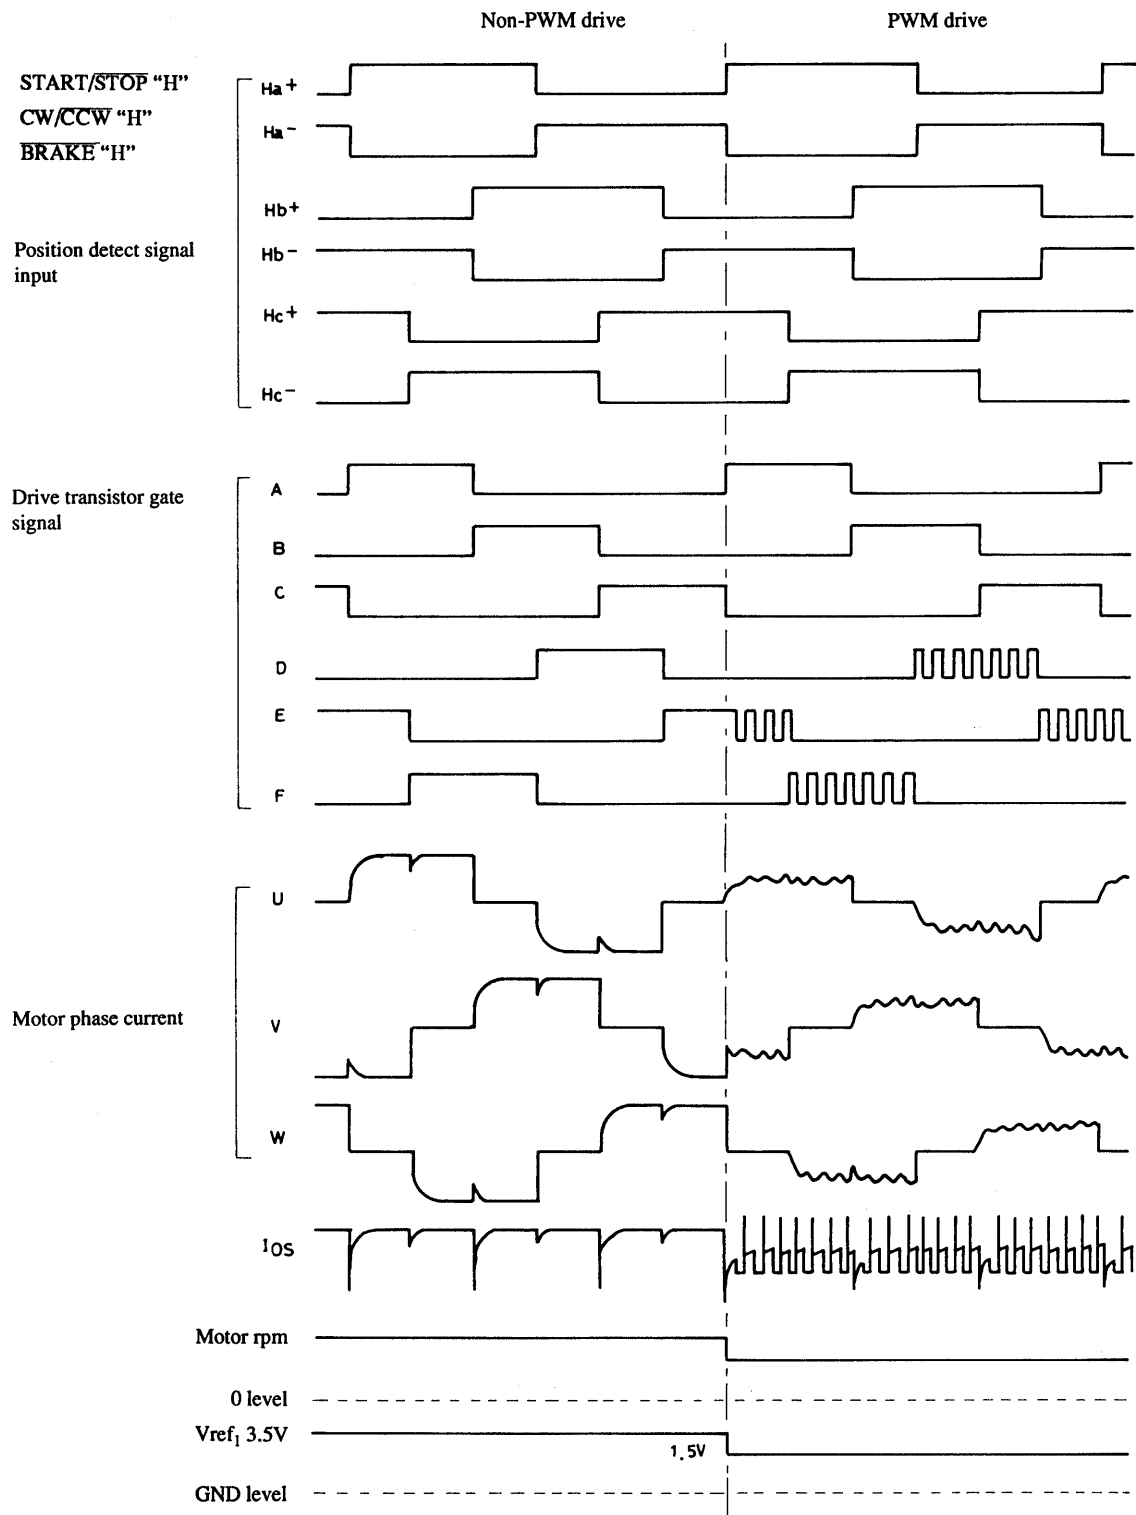
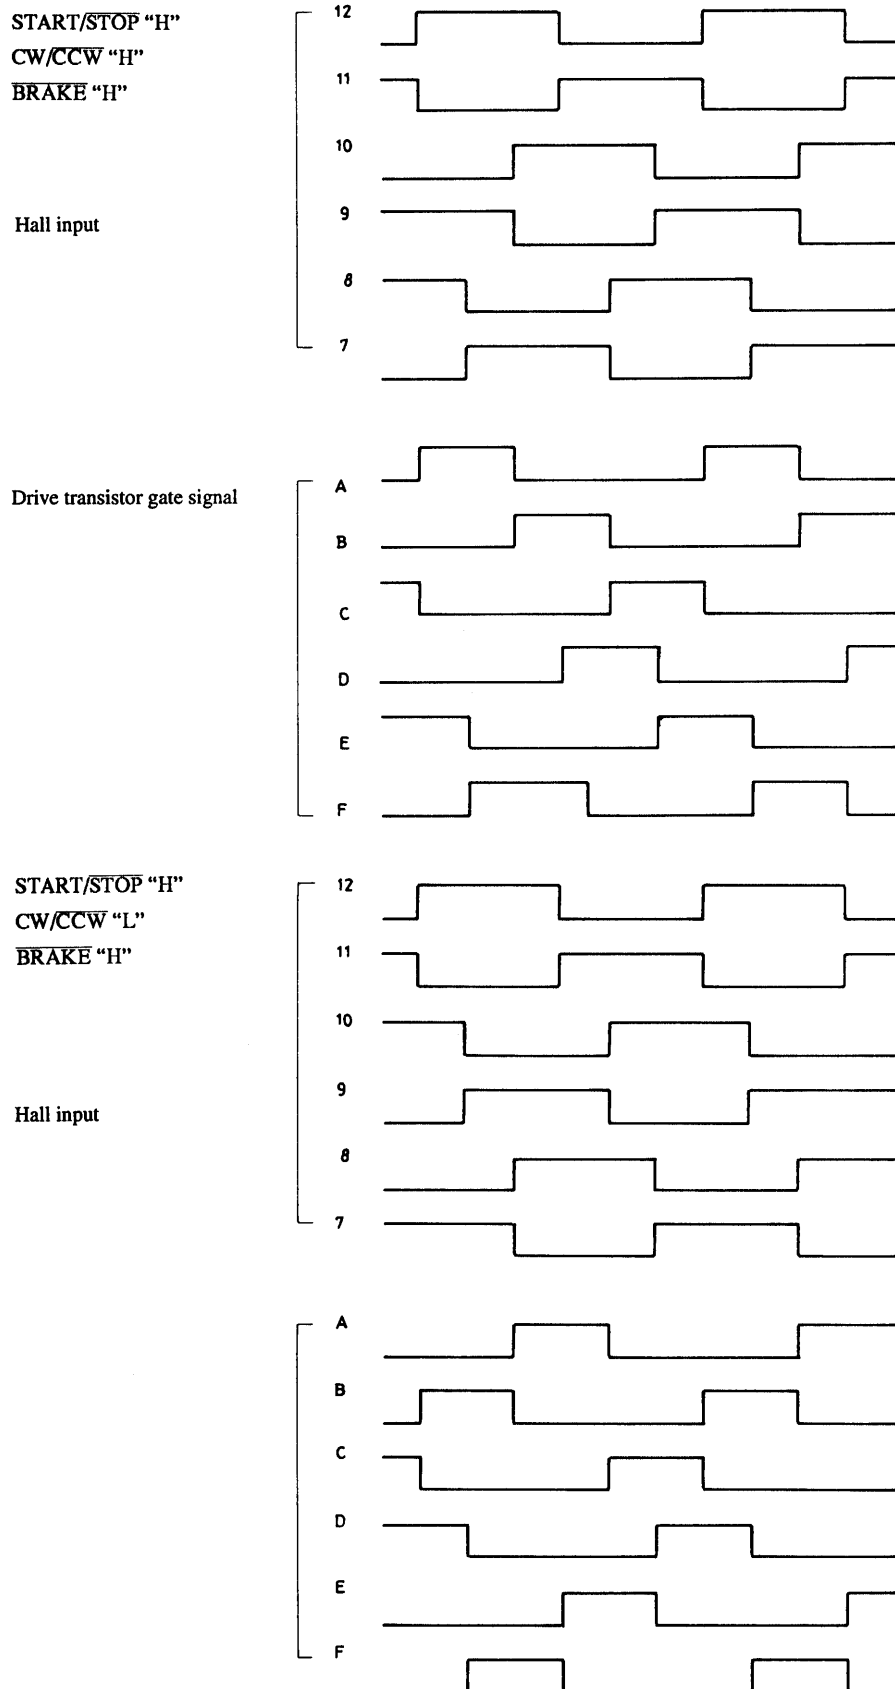
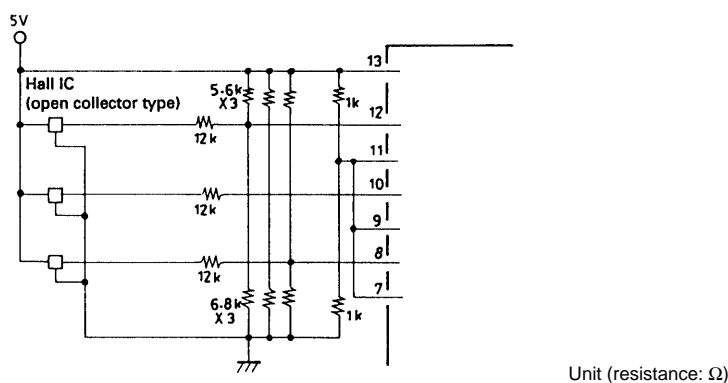

Fig. 3 I/O Timing Chart
Fig. 5 CW/CCW I/O Timing Chart
Fig.7 Conversion Circuit for Hall IC and Hall Device Signal
The conditions before input of V_{CC1} , with V_{CC2} on, are START/STOP pin H level, CW/CCW pin H level, BRAKE pin H level and V_{ref1} pin (speed control input) H level. The position detect signal at this time, due to the effect of the rotor magnetic field, will be output signals from 1 or 2 devices (of the 3) so that $H_{X+} > H_{X-}$ is input to HIC pins 7-12. The signals input to pins 7-12 are input to the motor controller and converted into signals compatible with 3-phase brushless motor revolution. When V_{CC1} is supplied the charge pump circuit activates, generating V_{CC1} MOSFET gate voltage V_Z . This outputs excitation current to the motor phase windings as indicated in the timing chart (Fig. 3), and rotating the motor.
The direction of motor revolution can be selected by setting the input level to H or L. CW is H level and CCW is L level. The CW timing chart is indicated in Fig. 3, and the CCW timing chart in Fig. 5.
Because signal input sensitivity V_H is $\pm 500\text{ mV}$ max, the level of the output signal (open collector) from the Hall IC must be reduced through conversion. A sample of this circuit is shown in Fig. 7. The position detect signal must be compatible with the motor phase winding even in the time chart state shown in Fig. 3, or the motor may not revolve smoothly.